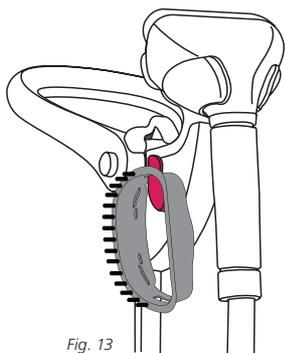

Fig. 13
- 5 Hang the steam nozzle onto the cradle. (Fig. 13)
- 6 Hang the bristle brush frame and the upholstery/delicate fabric frames on either side of the steam nozzle cradle. (Fig. 13)